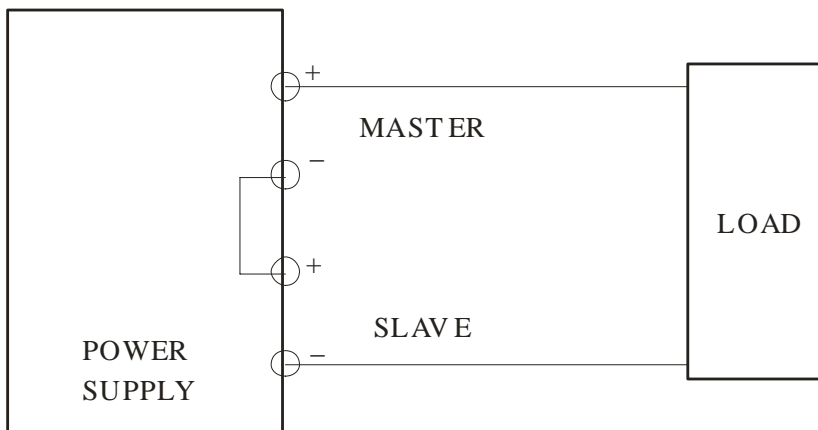

Fig.4-3 Single Supply
E. If "single supply" operation is desired, this allows the power supply to be used as twice the voltage and rating current simply by using the negative (black) terminal of the SLAVE supply and the positive (red) terminal of the MASTER supply, the configuration as shown in Fig.4-3.
B. Single supply (Fig.4-3)